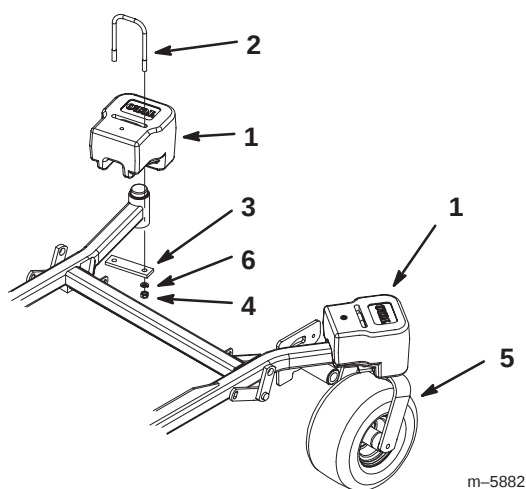

Figure 22
- Install plate, nuts (1/2 in.) and lock washer (1/2 in.) under the frame and weight (Fig. 22).